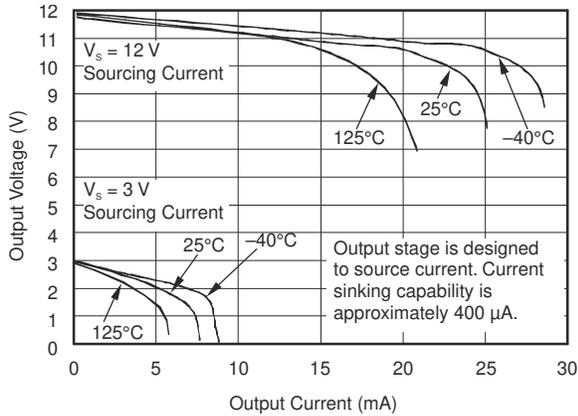

Figure 6-7. Positive Output Voltage Swing vs Output Current
- (1) Total output error includes effects of gain error and V_{OS} .
- (2) See Figure 6-7.
- (3) Specified by design
- (4) For details on this region of operation, see Section 7.4.2.